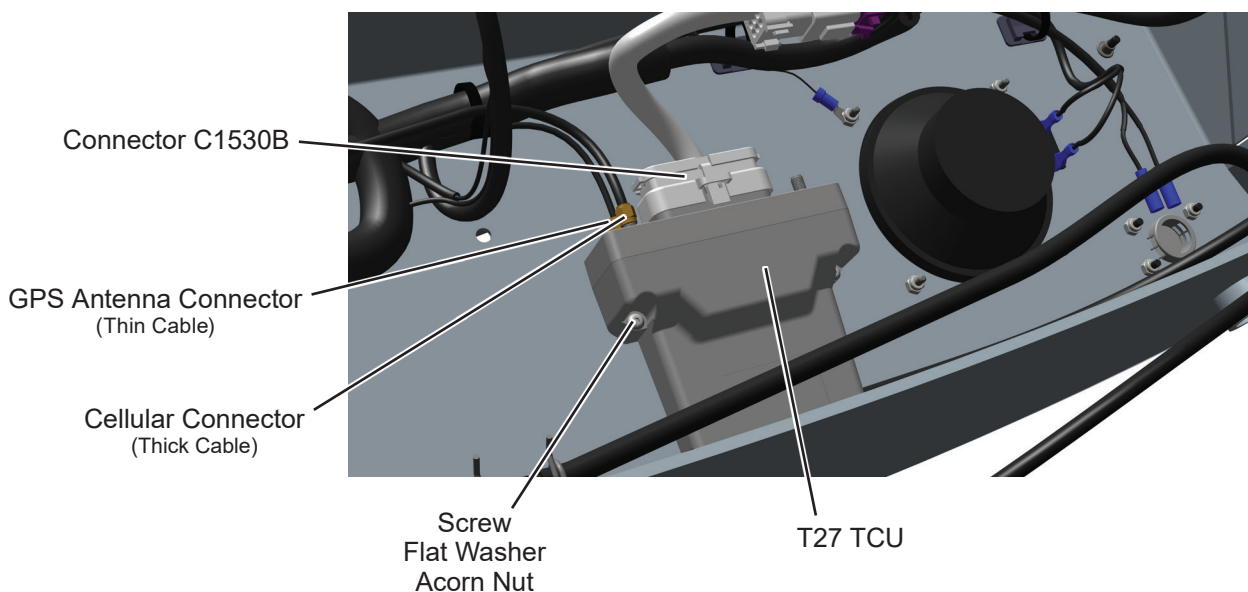

Figure 4
11. Disconnect connector C1530B from TCU. See Figure 4.
12. Loosen and remove cellular and GPS antenna from TCU. See Figure 4.
13. Loosen and remove screws, washers, and acorn nuts securing TCU to overhead console. See Figure 4. Save screws, washers, and acorn nuts for TCU reinstallation.